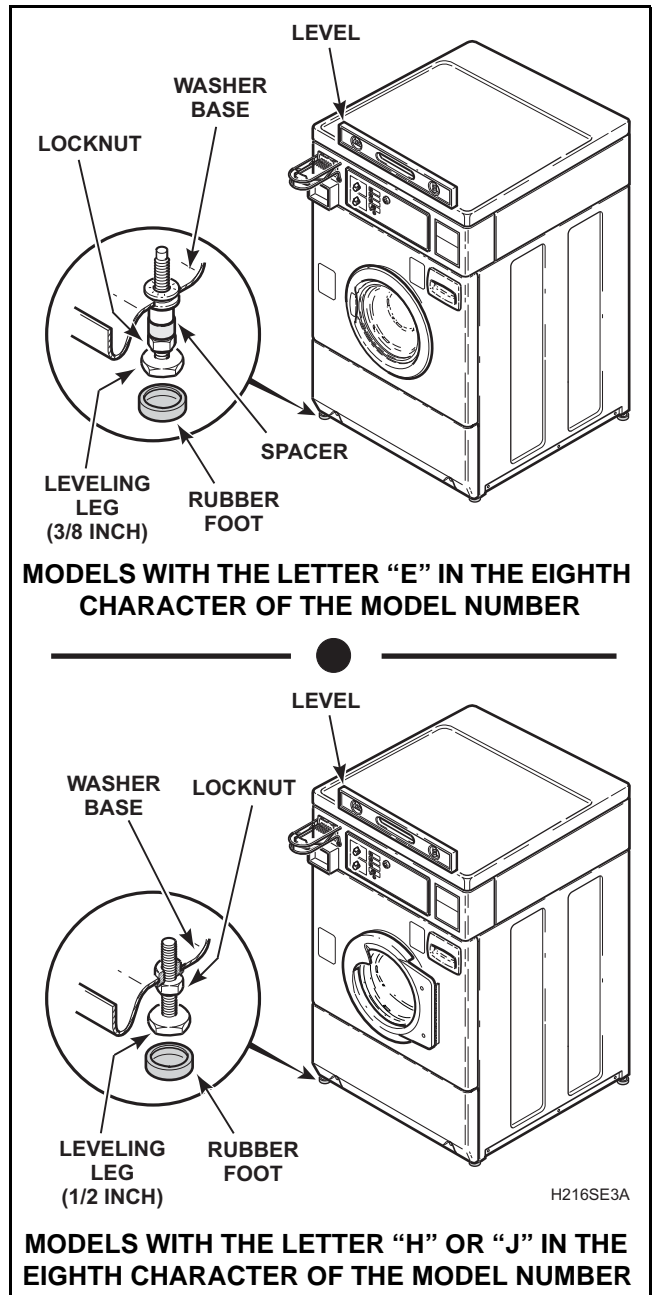

Figure 45
- Loosen locknuts and adjust the leveling legs until the washer does not rock. Refer to *Figure 45*.
**NOTE:** Level must rest on raised portion of top panel. Refer to *Figure 45*.
- Remove rubber feet from accessories bag and place on all four leveling legs. Refer to *Figure 45*.